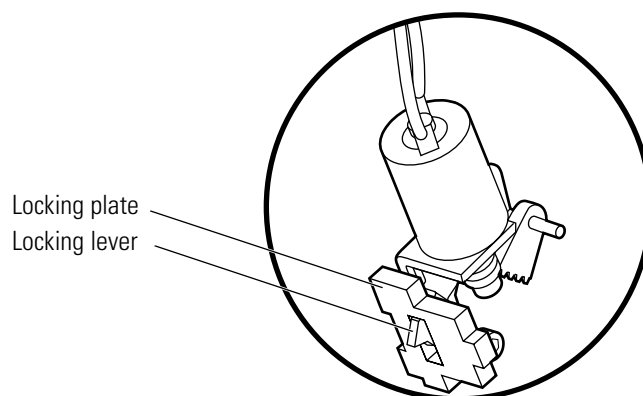

Figure 10.11 Reinstalling the locking plate
1. Slide the locking plate into position as shown in Figure 10.11. Make sure that the locking lever of the motor assembly is inserted through the locking plate.